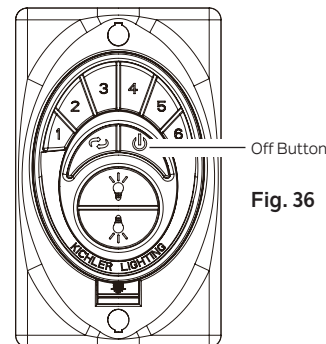

Fig. 36
Step 1. Restore power to the ceiling fan branch circuit at the circuit breaker or fuse box. Within 30 seconds of restoring power, press and hold the "OFF" button on the transmitter for 5 seconds. (Fig. 36) The light kit (if installed) will blink once, and the fan will beep 3 times, then run for approximately 1 minute. The light kit (if installed) will blink twice, and the fan will beep 4 times, to signal that the fan control setup process is complete.